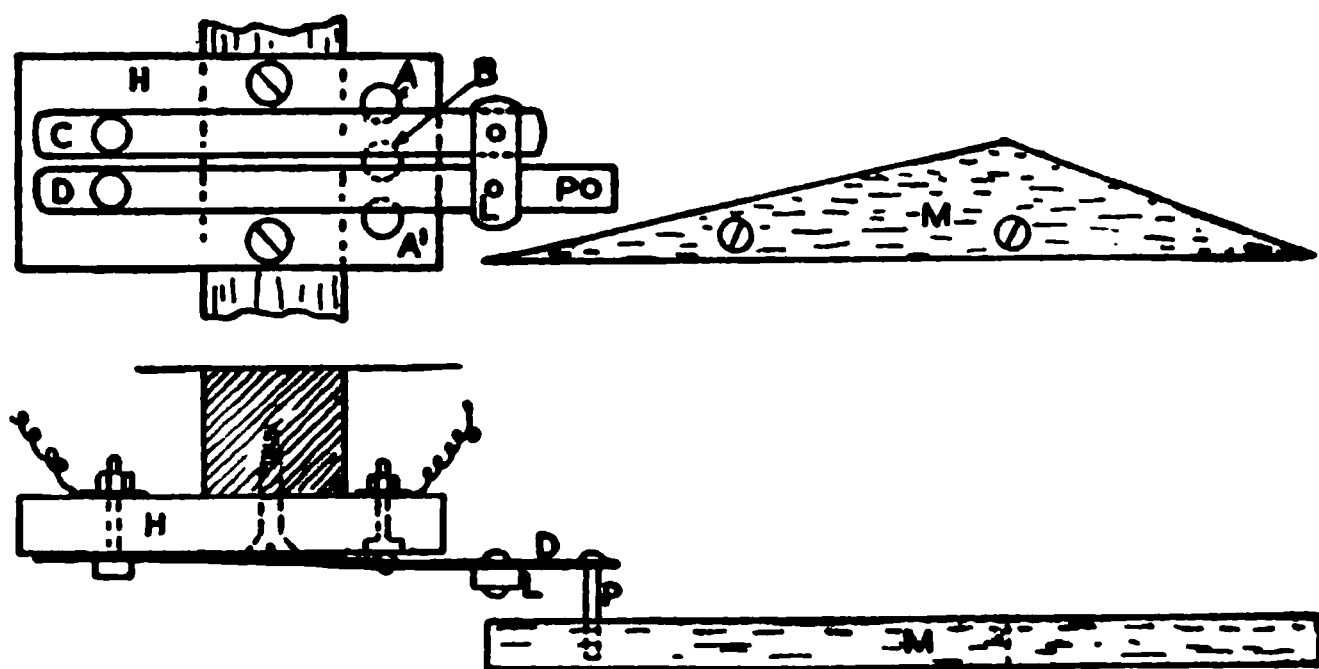

Fig. 84.—Automatic reversing switch for electric locomotive.
*Automatic Reversing.*—Reversing in the ordinary way is effected by means of a three-way switch which reverses the polarity of the rail circuit. If the track be a straight one, the locomotive may be provided with a switch which will automatically reverse the current when the locomotive approaches either end of the rails. The principle of such a switch, which may be affixed to the under side of the central cross-beam, is shown in Fig. 84. H is a small plate of compressed fibre or other insulating material, into which are sunk three small brass